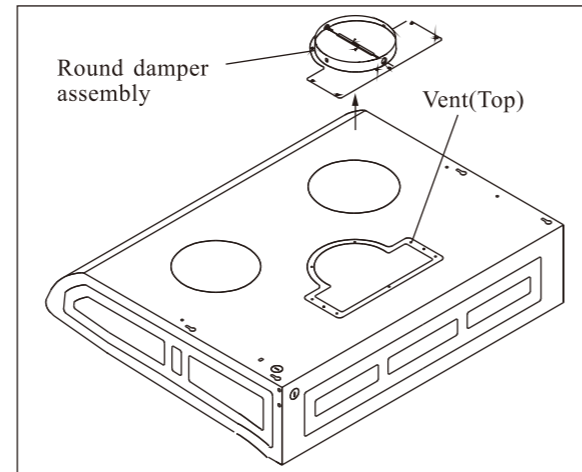

Fig. 2 Take out the round damper assembly
- (1) For round vent (the standard type), please connect the 6" exhaust duct to the round vent off the machine.
- (2) For rectangular vent on the top, please follow the procedures below:
- (a) Take out the round damper assembly from the top. (Fig2)